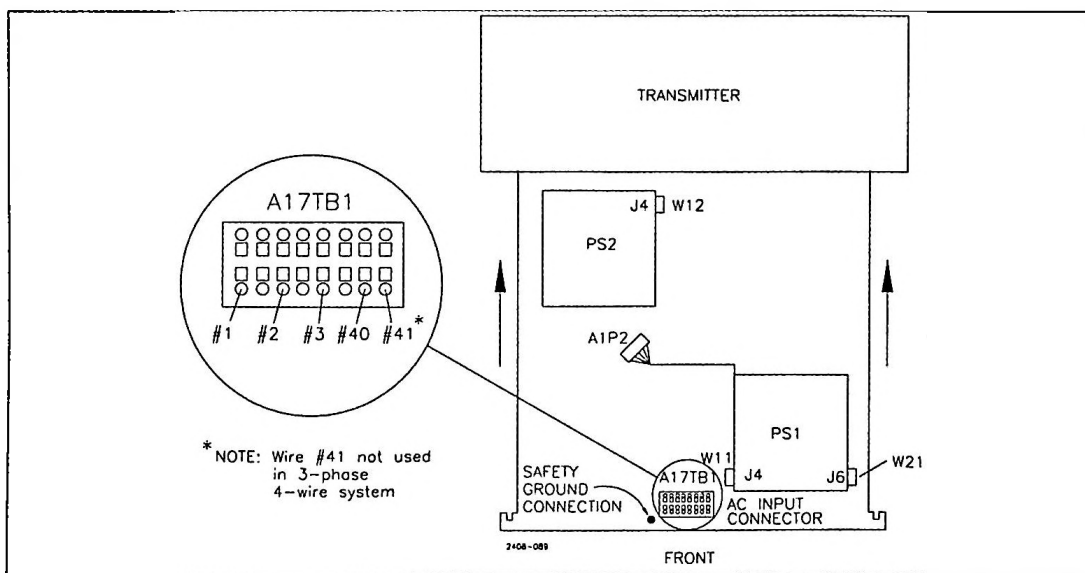

Figure 2-1 3-Phase Power Supply Top View
1. First connect W12 to J4 on the PS2 Rectifier Board. See Figure 2-1.
e. Wires #1, #2, and #3 (orange cables tied up on the left side of the power supply compartment) and two smaller gray wires #40 and #41* plug into the gray Wego block connector, A17TB1 on the front of the power supply tray (A17 designates a component on the power supply tray). See Figure 2-1. The Wego block has 8 terminals labeled terminal #1 on the left and #8 on the right. The connections are as follows:
- h. Connect the safety ground wire to the stud on the front of the power supply tray, just in front of A17TB1, See Figure 2-1.